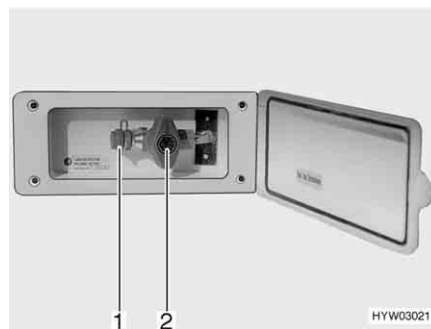

Fig. 108 External gas connection (gas isolator tap closed)
The external gas connection (Fig. 108) is located at the rear or to the left or right of the vehicle depending on the model.
- Connect the external gas device to the connection point (Fig. 108,1).
- Open the gas isolator tap (Fig. 108,2).